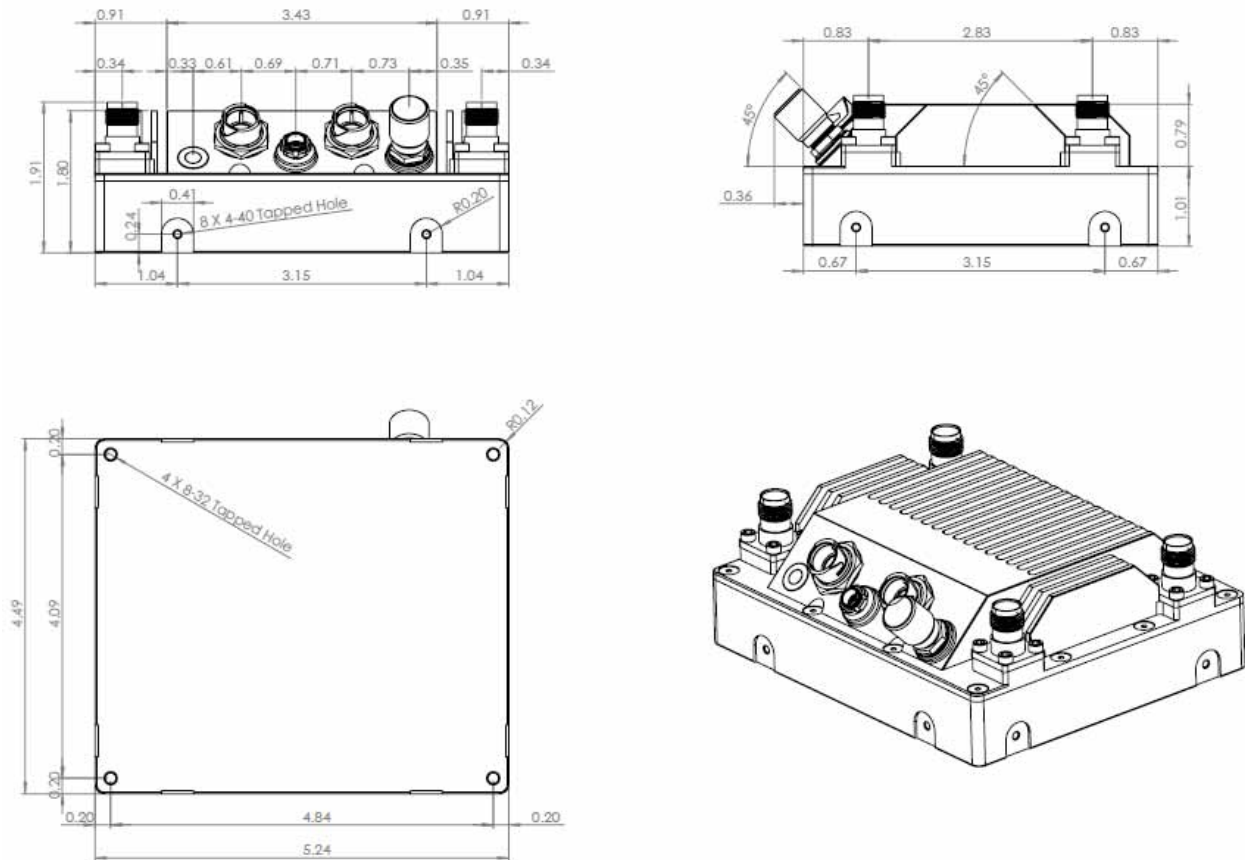

Figure 25 SC4400 Mechanical Drawing (top) and Mounting Pattern (bottom)
*Tapped mounting holes are available on bottom (8-32) and on the sides (4-40) of radio as indicated in **Figure 25 SC4400 Mechanical Drawing (top) and Mounting Pattern (bottom)**.